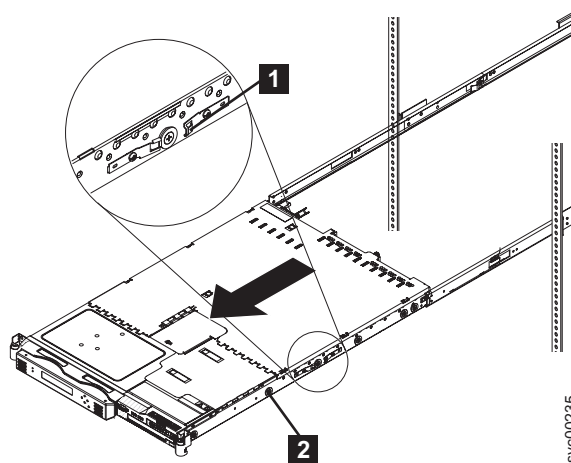

Figure 108. Removing the SAN Volume Controller 2145-8G4 from the rack
3. Position yourself to support the weight of the node when it is no longer held by the slides and then press the rear slide release latches (**1** in Figure 108) on both sides of the SAN Volume Controller 2145-8G4 node.